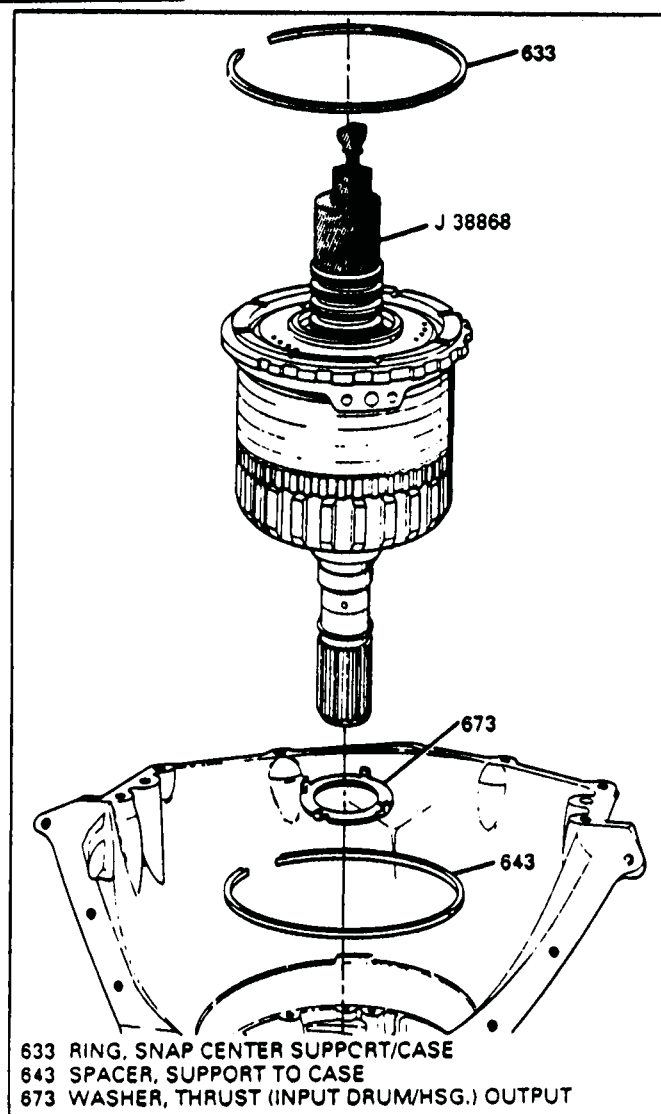

Figure 53
13. Remove the center support snap ring with a large screwdriver (Figure 53).
14. Attach tool J-38868 to the main shaft, as shown in Figure 53.
15. Remove the center support assembly and gear train unit (See Figure 53).
17. Note the location, and remove the thin spacer (643) from case (Figure 53).
18. Remove the thrust washer, it may be stuck to gear train unit (Figure 53).